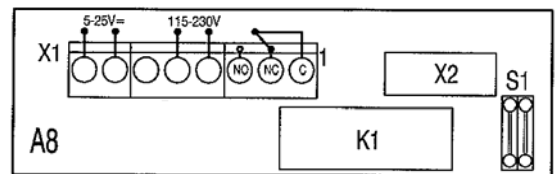

fig 3
- Connect the communication signal wires up to the vending circuit on to terminal strip **X1**, according to the instructions in the previous section (**fig. 3**). Close the circuit box.